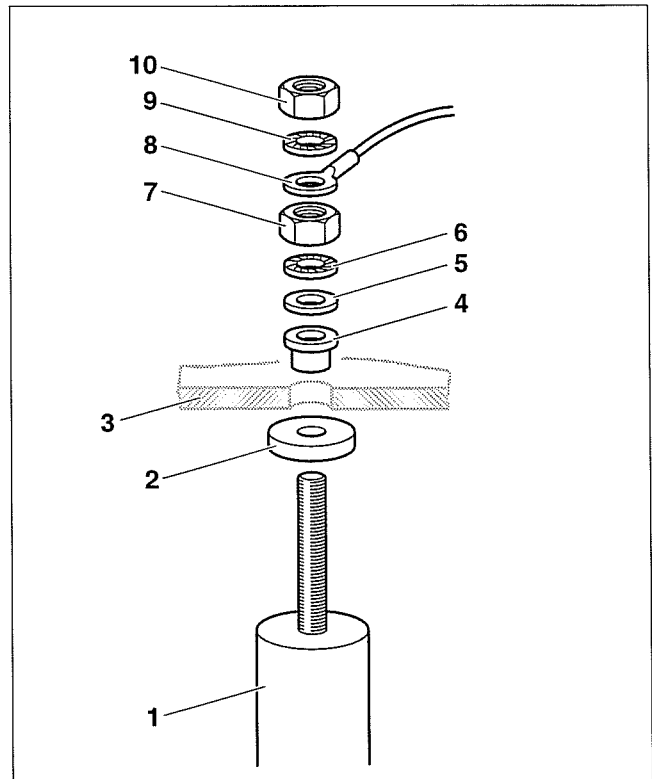

Fig. 18 Changing out of the Magnesium anode rod
- Check magnesium anode (Fig. 18, **Item. 1**) for decay. Replace anode rod, if the diameter is reduced to ½" to ¾".
- Remove the M8 nut (Fig. 18, **Item. 10**) to remove the ground cable (Fig. 18, **Item. 8**).
- Remove M8 nut (Fig. 18, **Item. 7**).
- Separate clean-out cover (Fig. 18, **Item. 3**) from the Magnesium anode rod (Fig. 18, **Item. 1**).
- Install new rod including the small parts, as shown in Fig. 18.